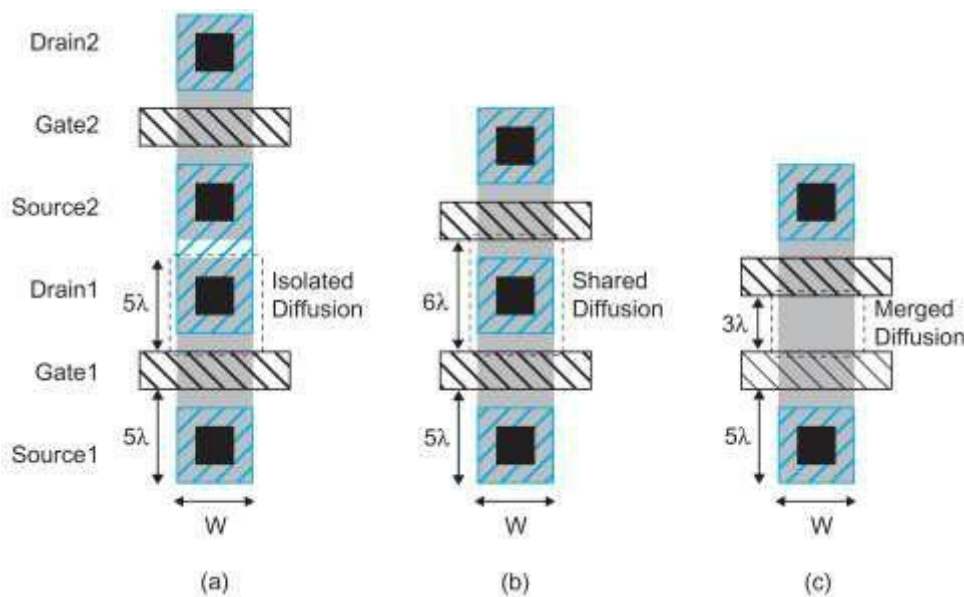

Figure7: Diffusion region geometries
- ✓ Three types of diffusion regions are illustrated by the two series transistors in Figure 7.
- ✓ In Figure 7(a), each source and drain has its own isolated region of contacted diffusion.
- ✓ In Figure 7(b), the drain of the bottom transistor and source of the top transistor form a shared contacted diffusion region.
- ✓ In Figure 7(c), the source and drain are merged into an uncontacted region.